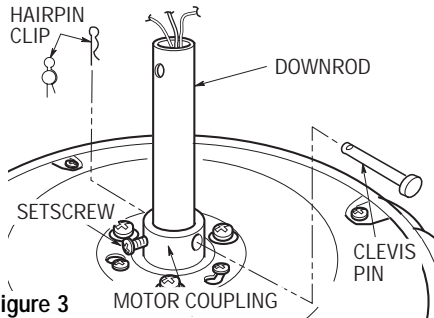

Figure 3
- 2. Unscrew the setscrew (Figure 3) until it clears the inside of the motor coupling. Then separate, untwist and unkink the three 80" motor leads. Route the motor lead wires through the downrod. Align the clevis pin holes in the downrod with the holes in the motor coupling. Install the clevis pin and secure with the hairpin clip (Figure 3). The clevis pin must go through the holes in the motor coupling and the holes in the downrod. Be sure to push the straight leg of the hairpin clip through the hole near the end of the clevis pin until the curved portion of the hairpin clip snaps around the clevis pin. The hairpin clip must be properly installed to prevent the clevis pin from working loose. Pull up on the downrod to make sure the clevis pin is properly installed.
It is critical that the clevis pin in the motor coupling is properly installed and the setscrew securely tightened. Failure to verify that the pin and setscrew are properly installed (as shown in Figure 3) could result in the fan falling.
- 3. Tighten the setscrew (Figure 3) securely while pulling up on the downrod.